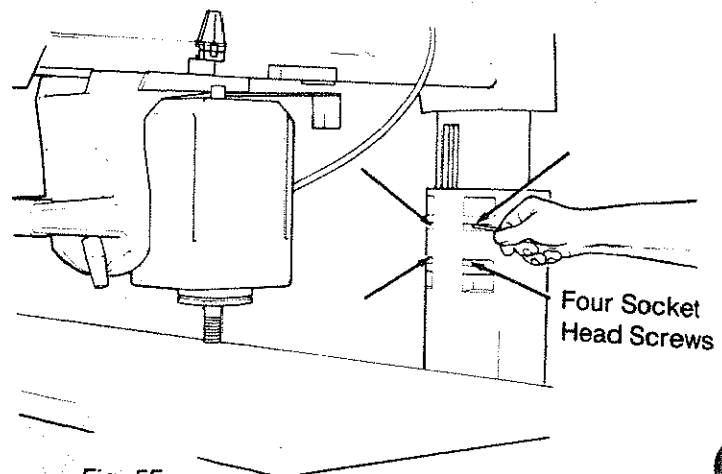

Fig. 55
11. Use a 3/16" hex "L" wrench to loosen the four screws in the front of the *column support* slightly, if you have not already done so in the Adjusting Elevation section. (Figure 55)